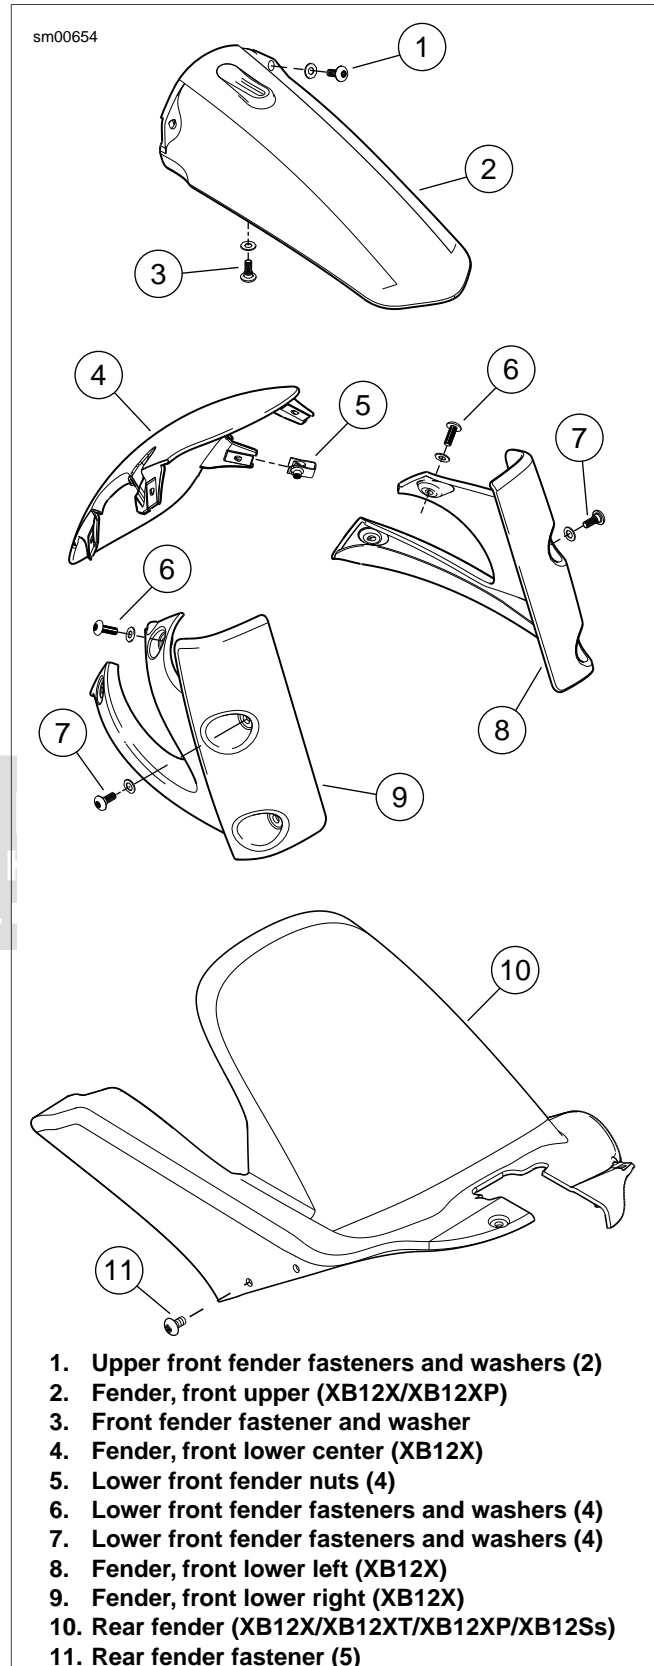

Figure 2-87. Front Fenders: XB12X/XB12XP and Rear Fenders: XB12X/XB12XT/XB12XP/XB12Ss
1. See Figure 2-87. Remove fasteners and washers (1) securing the upper front fender (2) to lower triple clamp.
2. Remove fastener and washer (3) from headlight assembly. Carefully remove front fender (2).
1. See Figure 2-87. Align front fender (2) to fender mounts on lower triple clamp, apply LOCTITE 271 (red) and install front fender fasteners and washers (1) and tighten to 12-36 **in-lbs** (1.4-4 Nm).
2. Install fastener and washer (3) into headlight assembly and tighten to 36-48 **in-lbs** (4.0-5.4 Nm).
1. See Figure 2-87. Remove fender fasteners (11).
2. Remove rear fender (10).
1. See Figure 2-87. Align rear fender to the swingarm.
2. Install rear fender (10) with fasteners (11).
2. Remove fastener and washer (3) from headlamp assembly. Carefully remove upper front fender (2).
1. See Figure 2-87. Align upper front fender (2) to fender mounts on lower triple clamp and install upper front fender fasteners and washers (1) and tighten to 12-36 **in-lbs** (1.4-4 Nm).
2. Install headlamp fastener and washer (3) and tighten to 36-48 **in-lbs** (4.0-5.4 Nm).